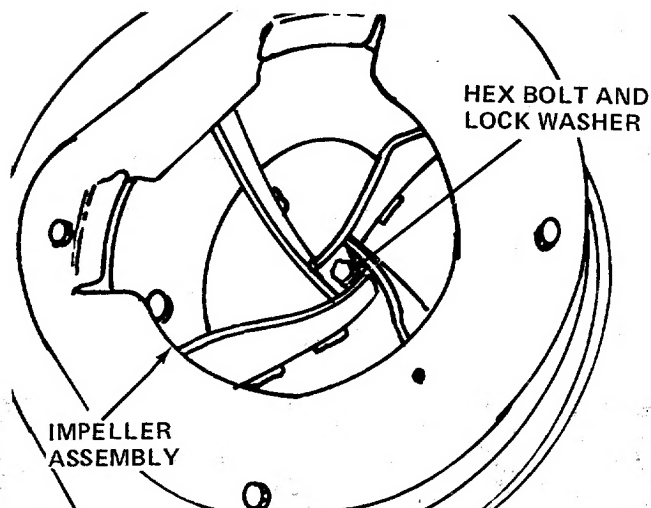

FIGURE 18
2. Remove hex bolt and lock washer from center of impeller. See figure 18. A 9/16" socket wrench with extension is needed.